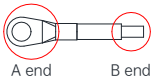

Fig. 6 Grounding terminal connection
- (5) Grounding: MV810-ECAT01 must be grounded during wiring as shown in Fig. 6. You need to prepare and crimp the cable by yourself.